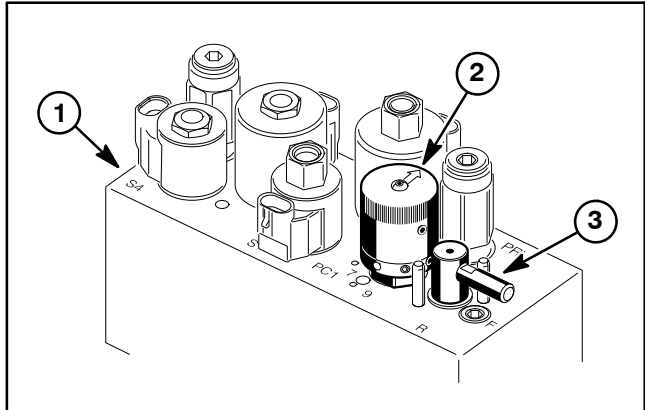

Figure 14
3. Locate the reel speed control and backlap lever on the hydraulic mow manifold (Fig. 14). Rotate the reel speed control to position “1” and the backlap lever to the R (backlap) position.